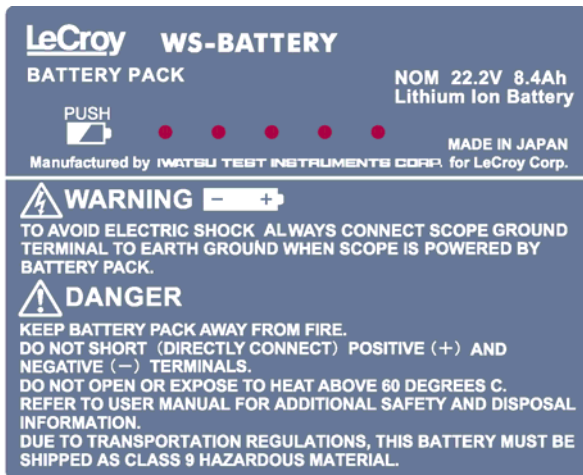
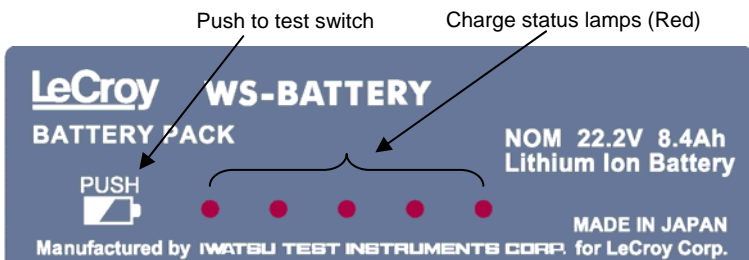

Figure 22. Name Label
Figure 26. Charge Status Indicators
1. Name label (See Figure 22.)
Charge status indicator LED lamps and “Push to Test” switch (battery mark) as shown in Figure 26 are provided at the upper portion of the name label (Figure 22). The following describes the indication contents.
When pressing the “Push to Test” switch shown in Figure 26, the remaining battery charge level is shown for 4 seconds, as described in Table 2.